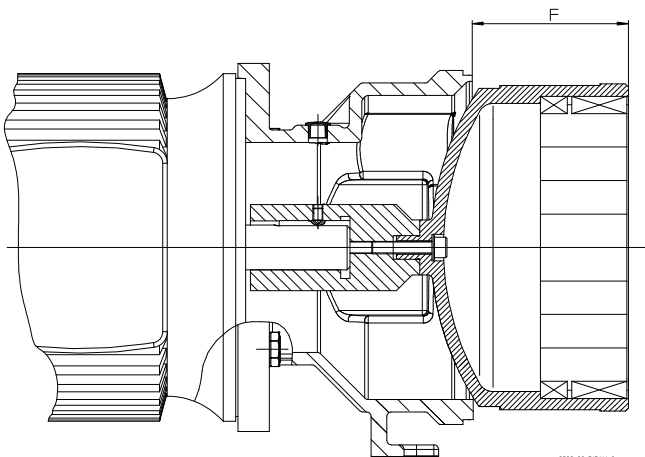

Fig. 6
- Ensure dimension "F" (see Fig. 6 under Section 7.7) is true.